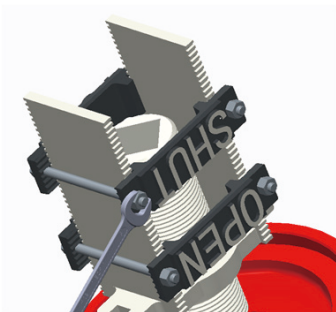

Figure 7
2.5 After the adjustment, tighten the nuts of each SHUT. Be careful not to over-tighten the nuts (Figure 7).